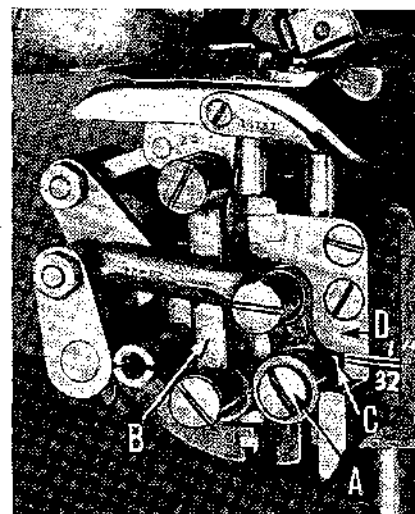

Fig. 9
To make this adjustment, loosen screw (A, Fig. 9) and, with the right hand, hold the feed plate against the presser foot. Then, by holding the feed link (B) with the left hand, push down the feed point until there is $\frac{1}{32}$ inch clearance between the block (C) and the plunger bearing block (D). Then, re-tighten screw (A).